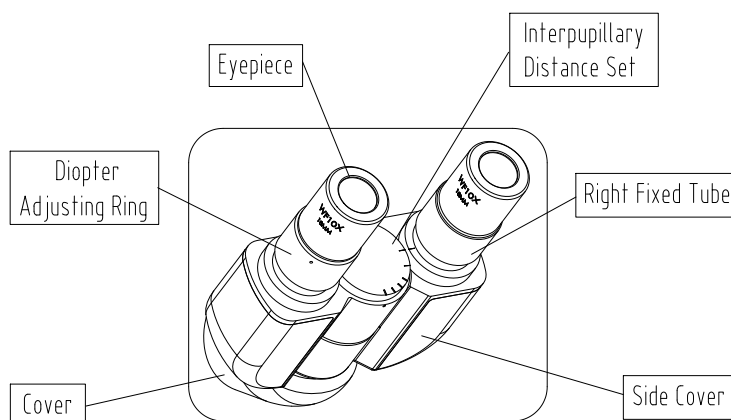

Fig.3
3.2.4.1 Interpupillary Distance Adjustment (As shown in Fig.3)
3.2.4.2 Diopter Adjustment (As shown in Fig.3)